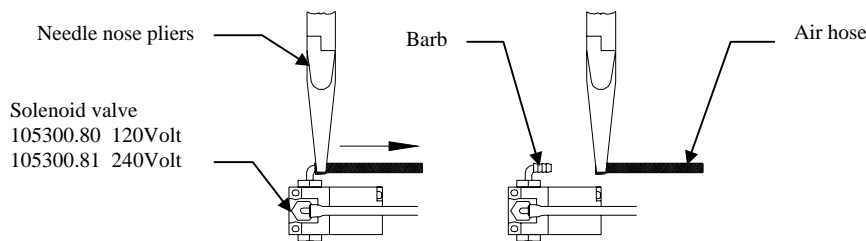

Figure 10
- To remove hoses from the blue Mac valve, use a pair of needle nose pliers, place the jaws on either side of the air hose, and *gently* pry the hose off the barb that is mounted to the valve. Take care not to damage the barbs (figure 10).